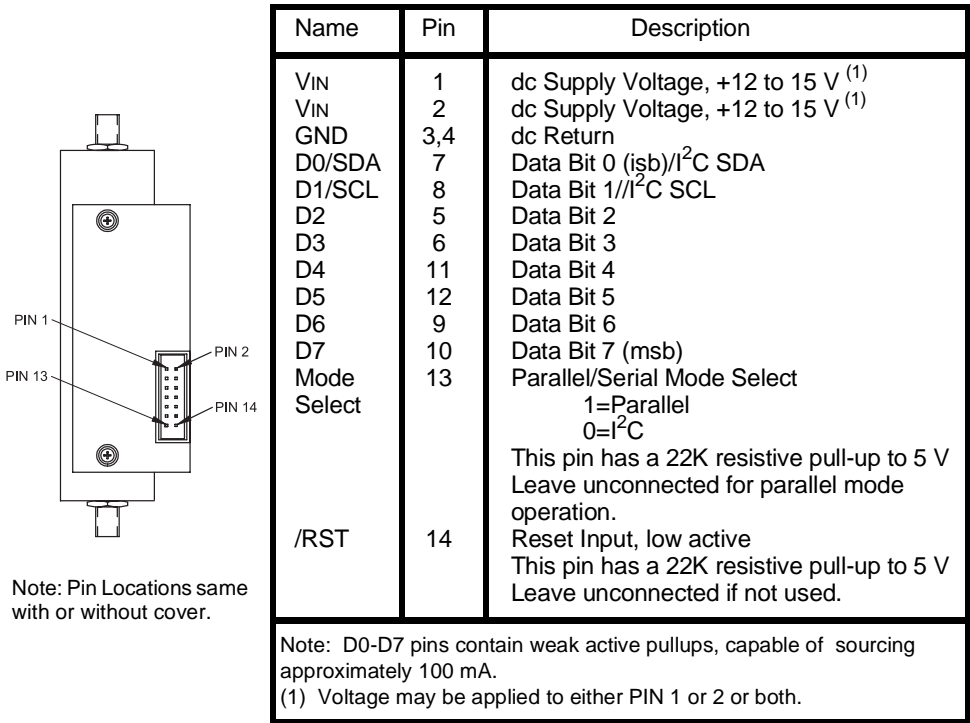

Figure 2. DIB Connector Wiring
**DEVICE INTERFACE BUS (DIB) CONNECTOR WIRING:** Figure 2 shows the connector's contact pin numbering scheme and the signal designator for signal present at each contact pin.